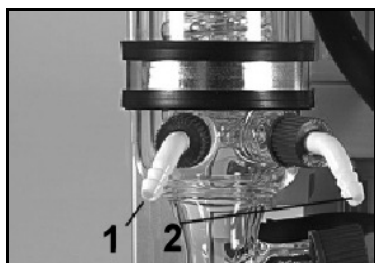

Fig. 16: Coolant supply of high performance condenser
- i** See fig. 16, page 29 for coolant inlet and outlet.
Coolant inlet and outlet see fig. 16.
i Coolant inlet and outlet see fig. 16.